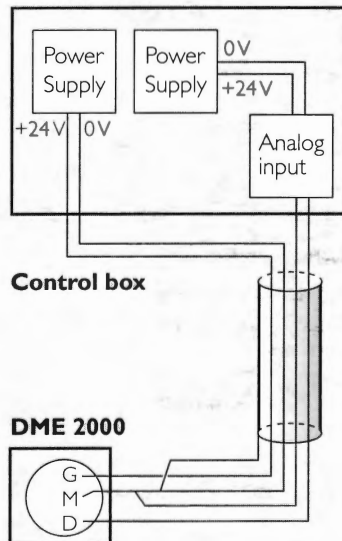

Figure 1. Wiring
- ▶ Large cable lengths can result in interference of the analog signal at the analog input of the evaluation device; select a cable diameter so that a line drop of <2 V is ensured. Possible additional measure: employ pairs of twisted cables (Figure 1).